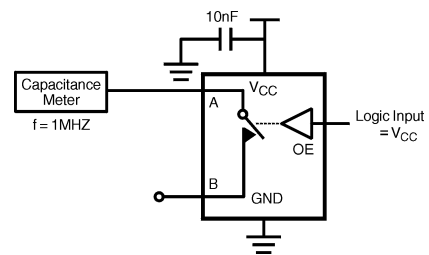

FIGURE 7. Channel On Capacitance
| $C_{I/O} \text{ (ON)}$  | Switch Port Capacitance when Switch is Enabled | 10.0 |     | pF    | $V_{CC} = 5.0\text{V}$ | Figure 7 |